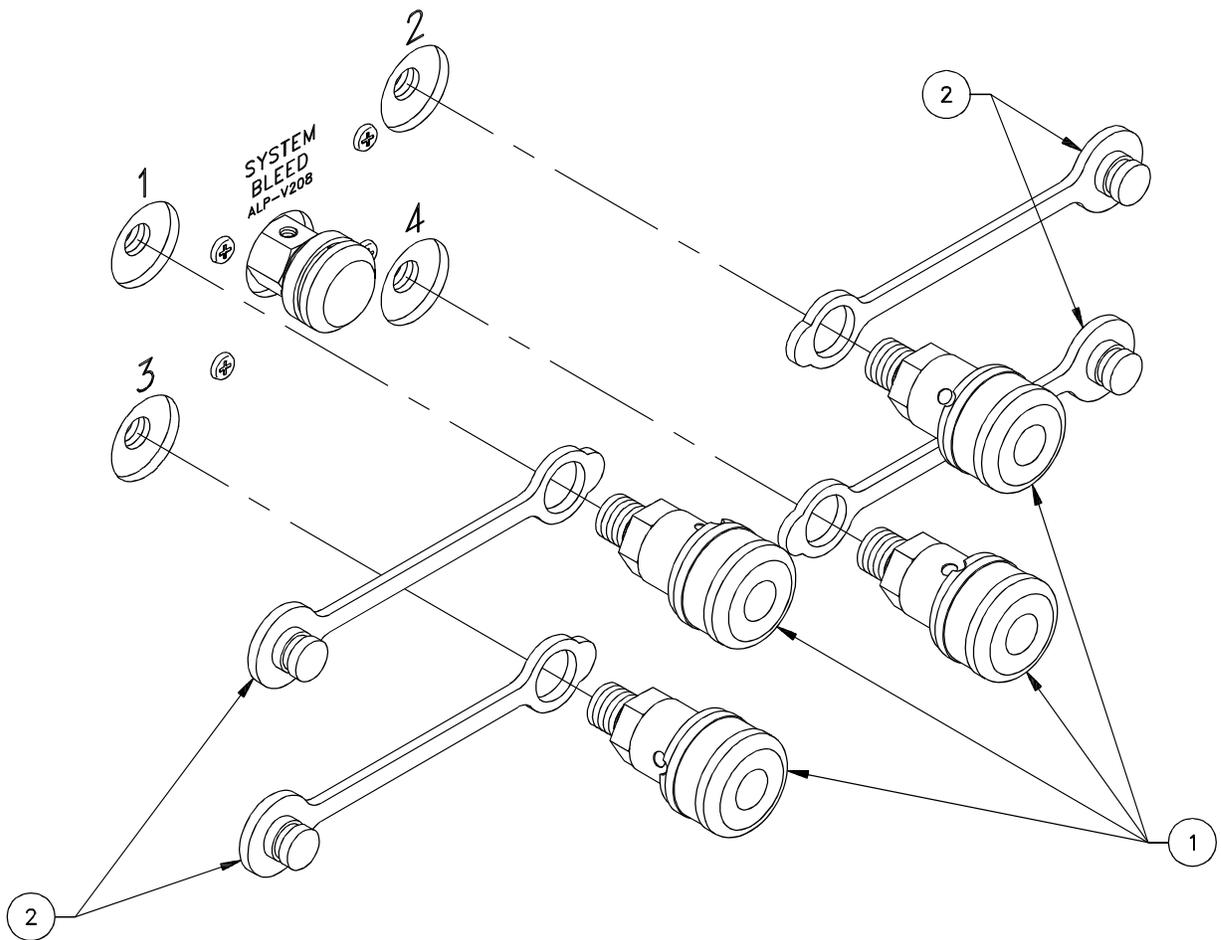

Figure 6-10. LP Quick Disconnects
6.5.2.11 LP Quick Disconnect (QD) Removal and Replacement (Figure 6-10).